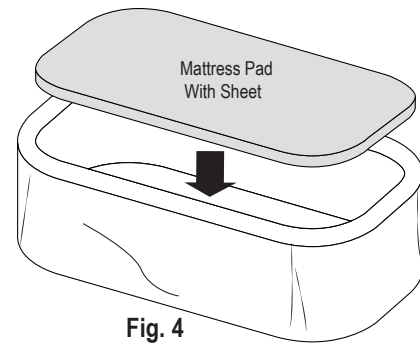

Fig. 4
- Place the covered mattress pad into the liner (Fig. 4).